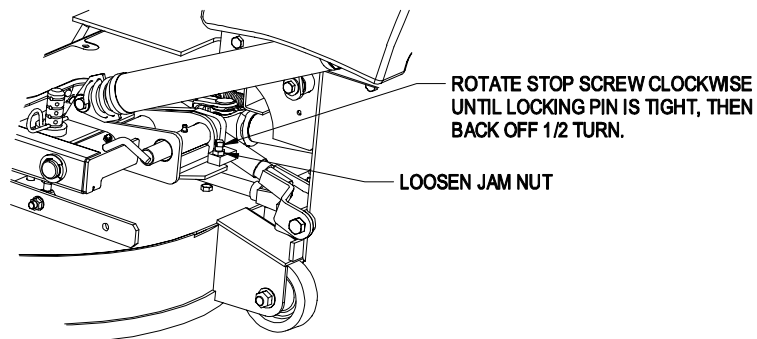

FIGURE 12
- b) Loosen the jam nut and turn the stop screw clockwise until the locking pins is tight and cannot be rotated by hand. See Figure 12.